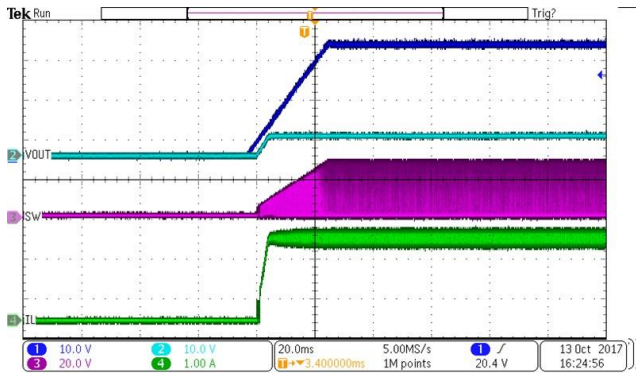

Figure 17. Power Up
The SCT9320 features external programmable output voltage by using a resistor divider network  $R_1$  and  $R_2$  as shown in the typical application circuit Figure17. Use equation (11) to calculate the resistor divider values.